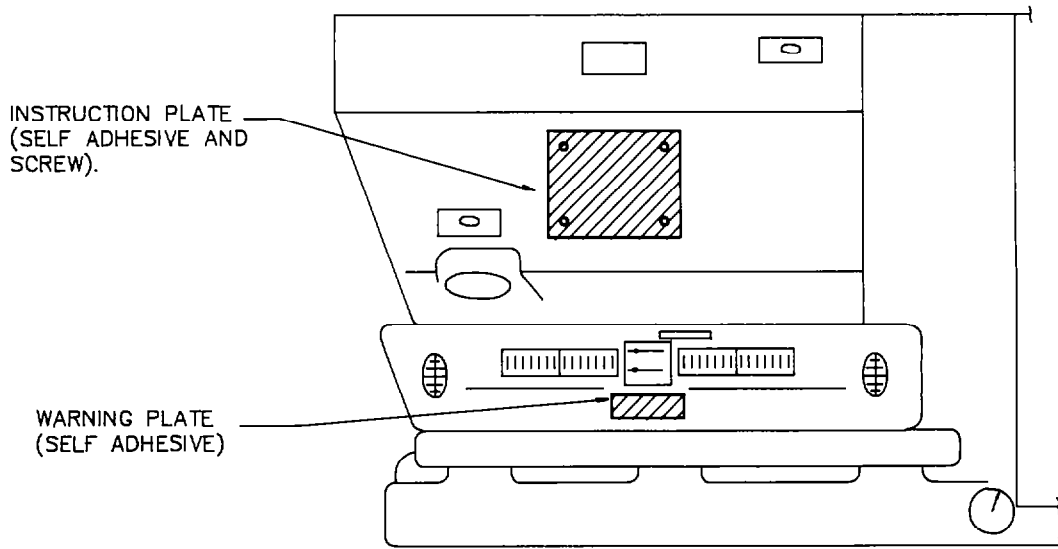

Figure 3 - Fitting of Instruction and Warning Plates
19. All applicable vehicles shown in Table 1 are to have the instruction and warning plates replaced by a Rover Australia dealer. Figure 3 shows the location of the plates. Both plates have a self adhesive backing, with the instruction plate being secured with an additional four self tapping screws.